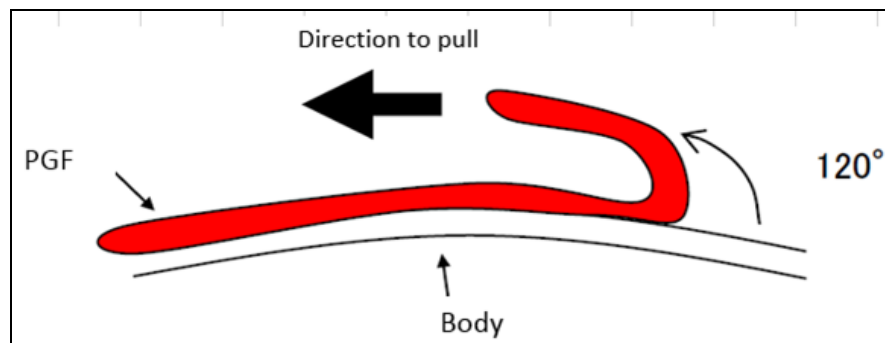

Figure 1
1. As shown in Figure 1, fold back one end of the PGF 120°, and then continue to pull the PGF in that same direction.